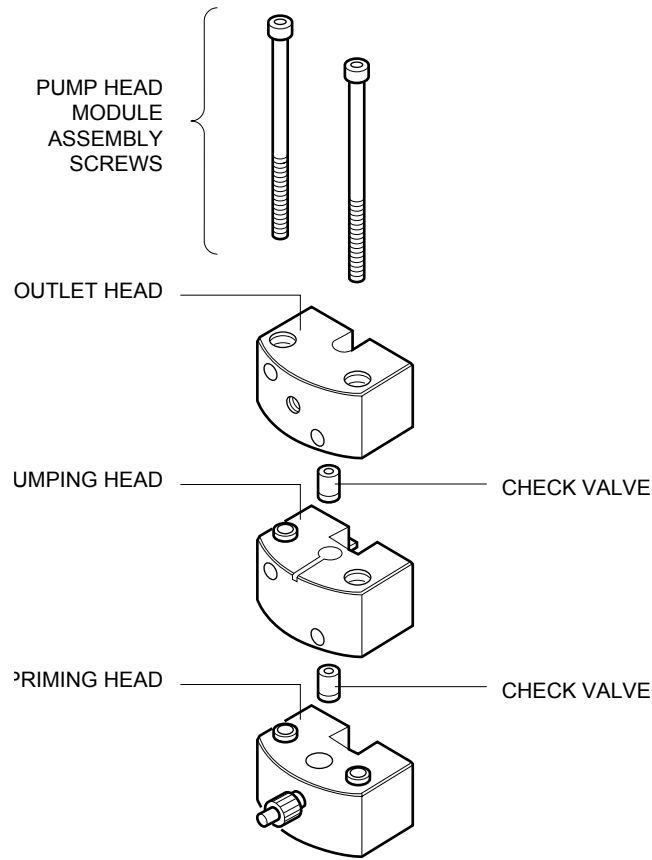

Figure 68. Pump Head Module Assembly
- b. Remove the two Pump Head Module Assembly screws at the **top** of the module. See Figure 68.
- d. Reassemble the pump head as shown in Figure 68. Replace the two pump head module assembly screws and tighten firmly.